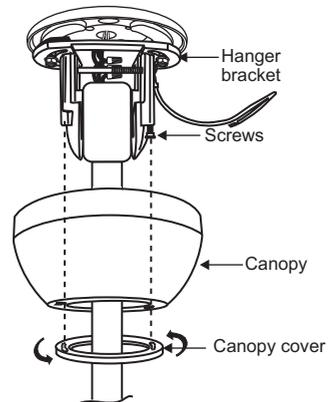

Fig. 16
4. Slide the canopy up to the ceiling and place the mounting screws through the key holes in the face of the canopy. Rotate canopy clockwise. (Fig. 16)